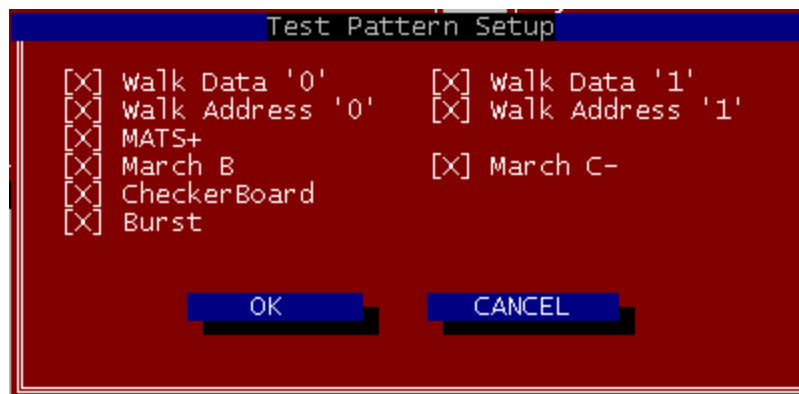

Fig 3.3
1. Click on Configuration for the pulldown Menu. Choose Test_Pattern and a selection table will be shown as in Fig 3.3. Click on the desired test pattern and press < OK > to accept the new selection.